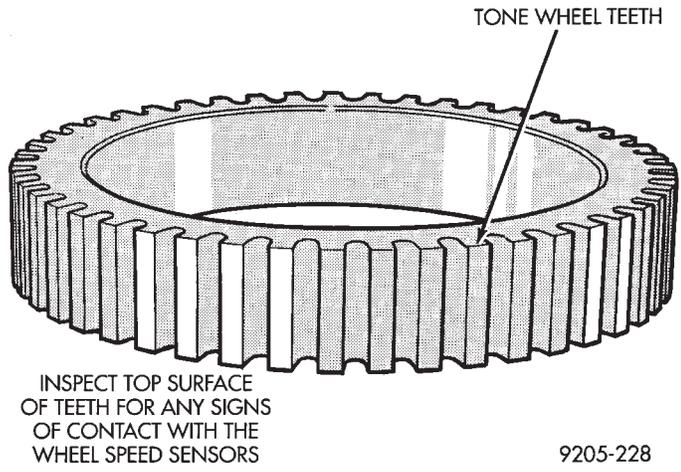

Fig. 10 Tone Wheel (Typical)
See (Fig. 10) Relay and Warning Lamp Section of this group for the location of the Anti-Lock system relay and the Yellow Lamp relay. Remove the relay from the vehicle using the following procedure.
(1) Mount the relay pack to the inner fender with the anti-rotation tab on the bracket around lip of inner fender hole (Fig. 10) Relay and Warning Lamp Section of this group.
(2) Install the relay pack to inner fender mounting bolt and torque to 4 N•m (35 in. lbs.).
(3) Connect the wiring harness connectors onto the relays until the locking tabs on the connectors and
Inspect tone wheels (Fig. 10) for any missing or broken teeth, this can cause erratic speed sensor signals.